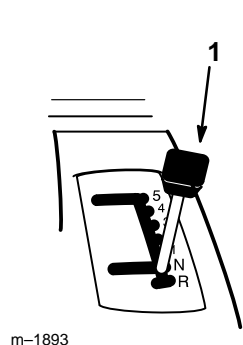

Figure 6
3. Move the ground speed selector into neutral “N” (Fig. 6).